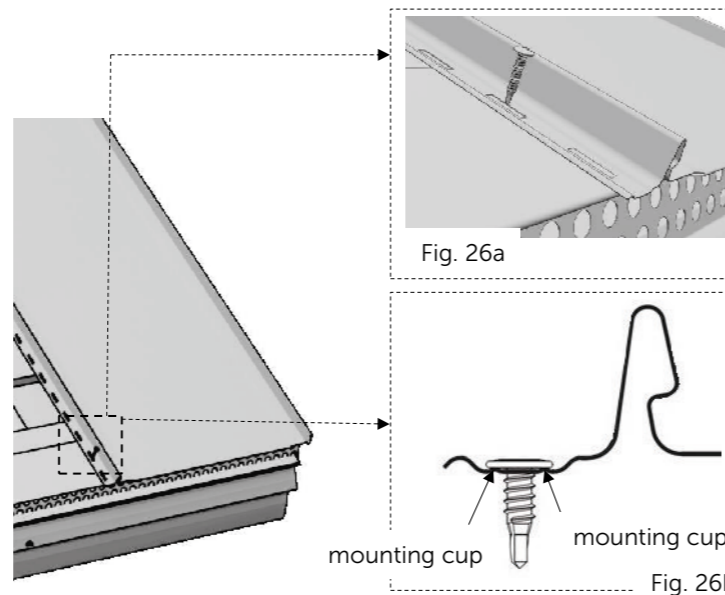

Fig. 26
- Screw the panel with a 4.2x32 washer head screw to the first batten/board on the eaves side. Screw the screw into the centre of the expansion hole in the panel (Fig. 26).